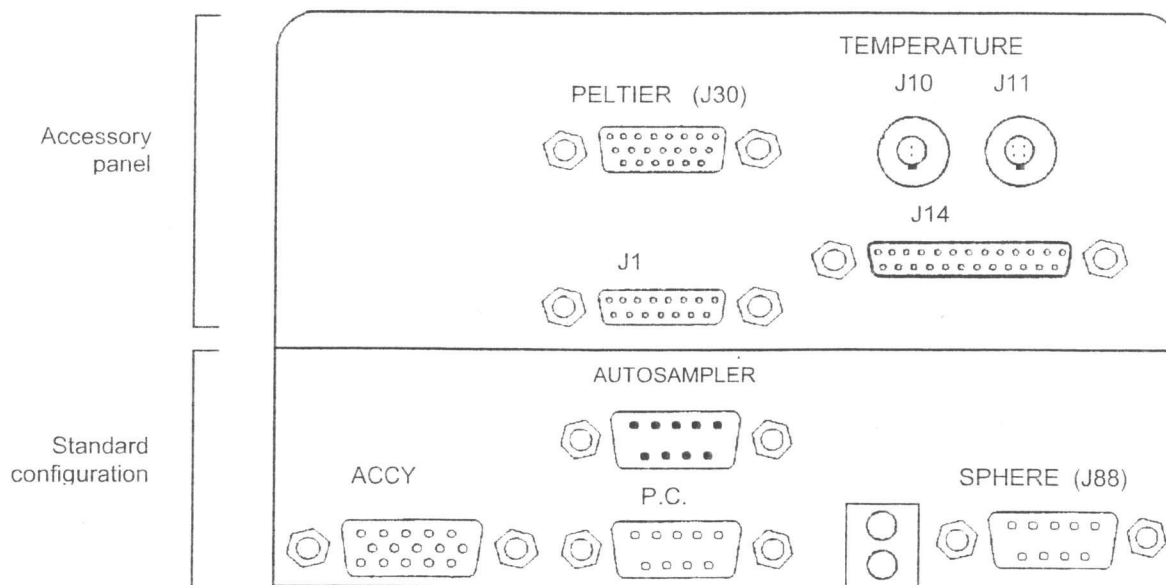

Figure 12 Accessory Connector Panel
*Pull the collar on the plug back to connect/disconnect the plug. Release the collar to secure the plug (see Figure 12, page 71).*